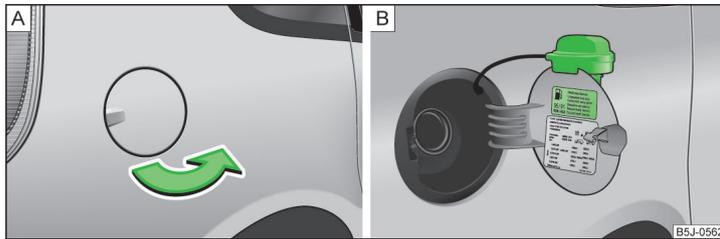

Fig. 131 Open fuel filler flap / tank cap
The correct grades of fuel for your vehicle are stated on a sticker affixed to the inside of the fuel filler flap » Fig. 131 on page 143 - B.
- Open the fuel filler flap with one hand » Fig. 131 - **A**.
- Unscrew the filler cap by turning it anticlockwise and clip the cap on the top of the fuel filler flap » Fig. 131 - **B**.